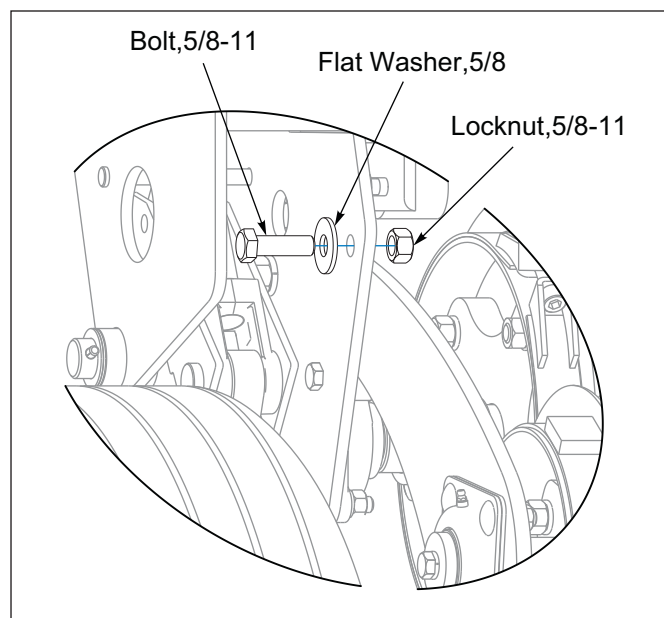

Figure 2-18: Shipping Bolt
7. Remove from the RH and LH Frame End Plate the 5/8-11 Shipping Bolts that locks the Rear Roller Arms Down. **See Figure 2-18.**